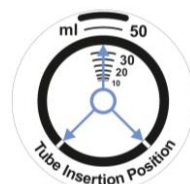

Figure 3.
- Align sensor spots with socket indicator lines (figure 3);
- Tube positioning in the tube socket must be as follows: The volumes mark of the TPP tube must be between and opposite to the two markings on the rotor and the sensor spots must align with the two markings (figure 3); this position enables the light from the laser to be transmitted without disruption by different marks presented on the tubes outer surface and it allows for pH and O₂ optics to be on the same axis as the sensor spot.